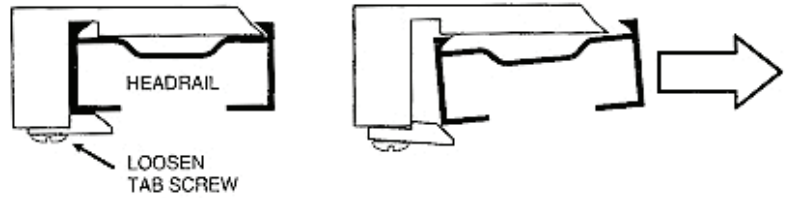

Figure 1: Loosen the tab screw and tilt the back of the headrail down to remove the shade assembly from the installation brackets.
- Wall mount: Attach the angle brackets onto the wall surface two (2) inches above the window (using the #8-3/4" Phillips screws). Then attach a mounting clip to each angle bracket using a #6-1/4" se-tapping Phillips screw. (see Figure 1)
Remove the shade assembly from the installation brackets: Raise the shade all the way to compress the fabric. Loosen the tab screw on the back of each mounting bracket. Tilt the back of the headrail down to remove the rail from the brackets (Figure 1). Place the shade assembly on a clean work surface. Note: If you have a steel bracket without the tab screw, the shade may be removed utilizing the same tilting action shown. (If they do not include the stringing needle then get one as well).